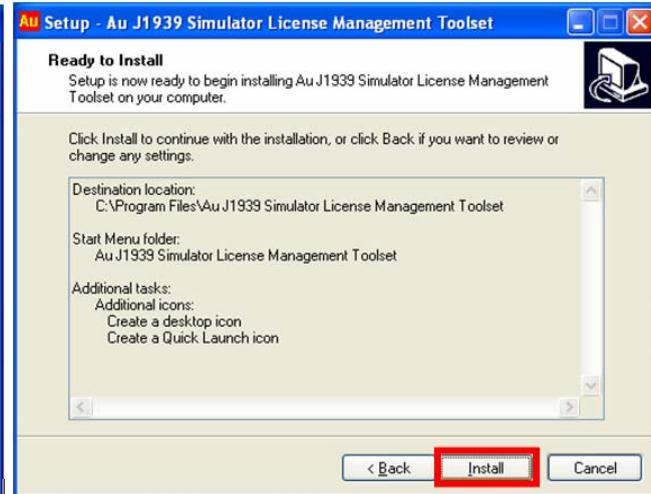

Figure B-7
7. “Ready to Install” window shows up, click “Install”, as shown in Figure B-7.